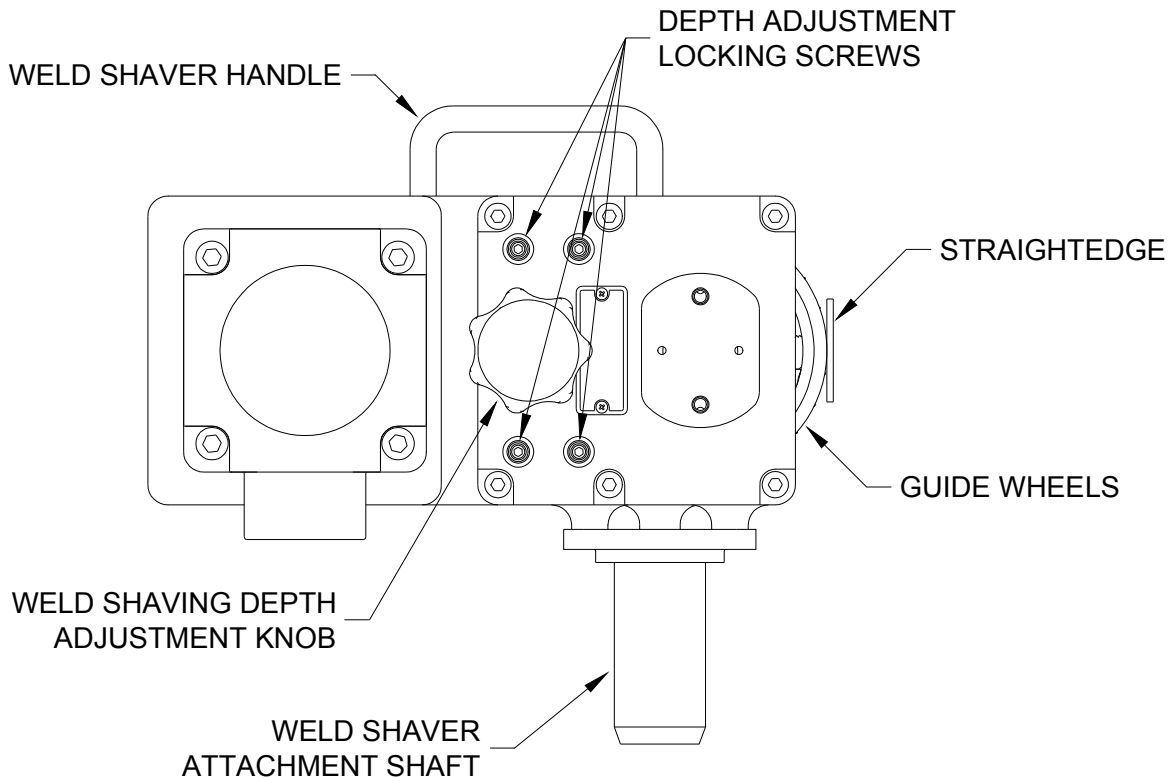

Figure 8: Weld Shaver depth adjustment
- Loosen the four (4) Depth Adjustment Locking Screws (a 4 mm METRIC hex key is required) sufficiently to allow the Weld Shaver Depth Adjustment Knob to turn freely.
- Position a straightedge across the Guide Wheels, as shown in Figure 8.